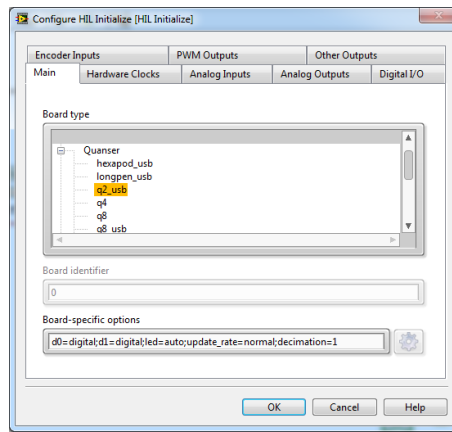

Figure 4.4: Select DAQ board that will be used to control system
6. Under the Main tab, select the data acquisition device that is installed on your system in the *Board type* section. For example, in Figure 4.4 the Q2-USB is chosen.